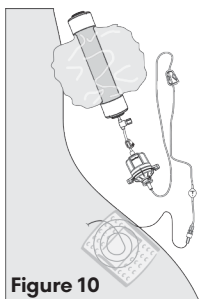

Figure 10
- Infusion is complete when the pump is no longer inflated (the compression unit body will feel hard when touched in the middle) (See Figure 10).